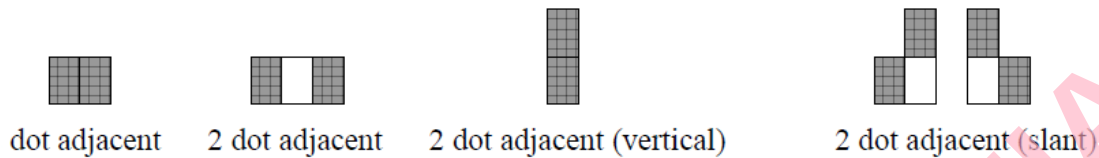

Figure 4
- 2 dot adjacent=1 pair =2 dots (See figure 4)